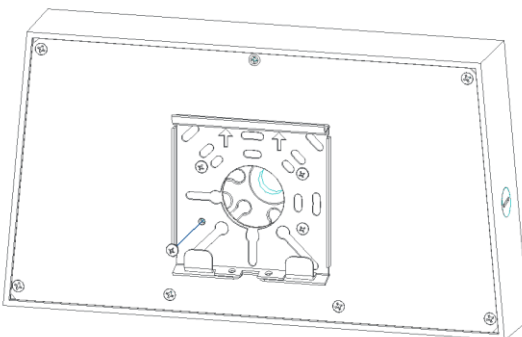

Figure 14
6. Attach the mounting bracket to the cover plate using the four center screws (Figure 14).